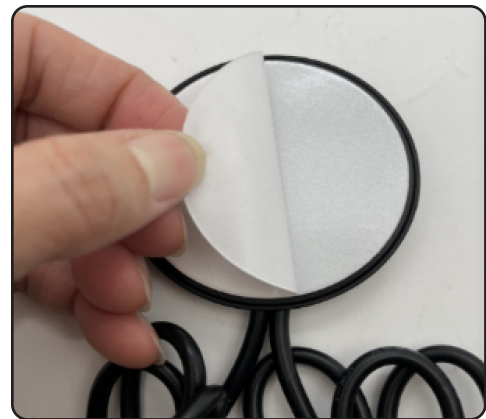

FIG 2
2. Peel off the protective film from the adhesive sticker. (FIG 2)